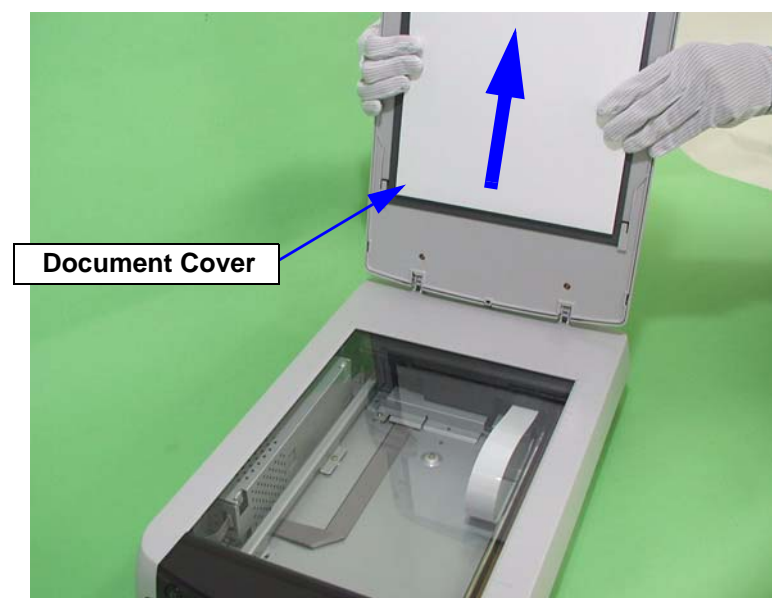

Figure 4-5. Document Cover Removal (2)
2. Open the document cover. (See Figure 4-5)
3. Hold the document cover with two hands and lift it up to remove it. (See Figure 4-5)